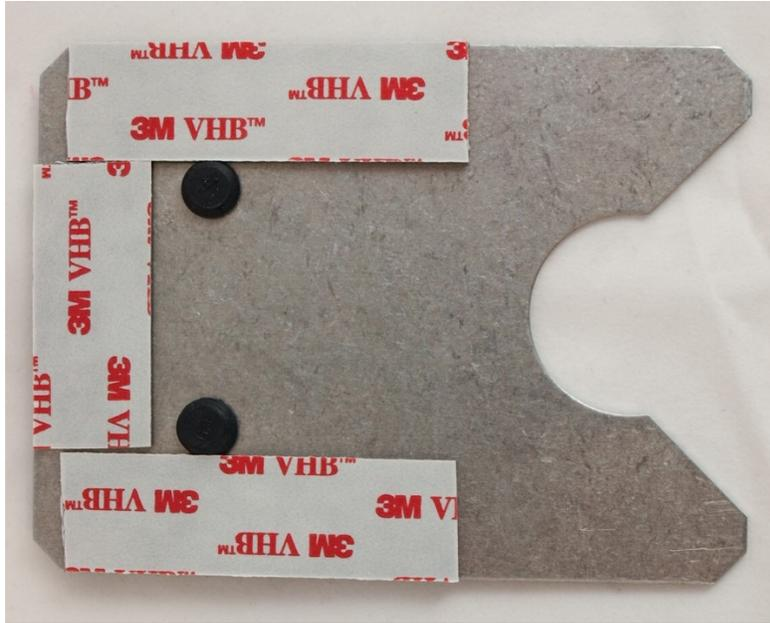
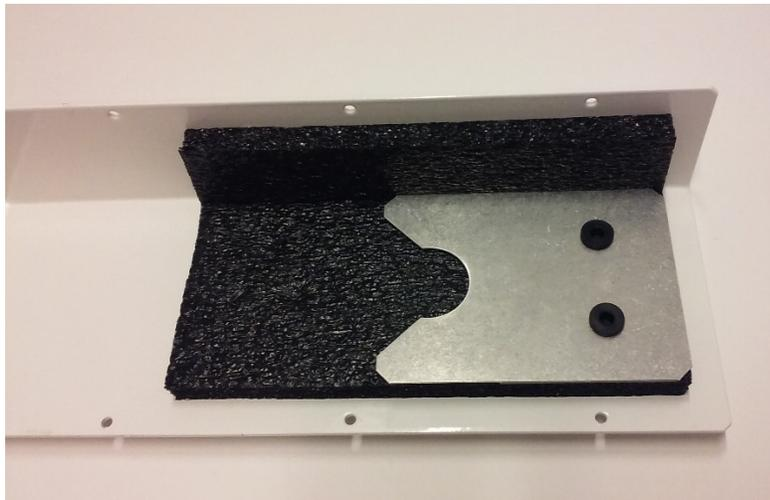

FIGURE J-5. New inner plate with adhesive tape
FIGURE J-6. New inner plate placement on pump module cover
5. Remove the paper from the back of the adhesive tape on the new inner plate (FIGURE J-5) and adhere to the foam in the same location as the original plate paying attention to the direction of the notch (FIGURE J-6).